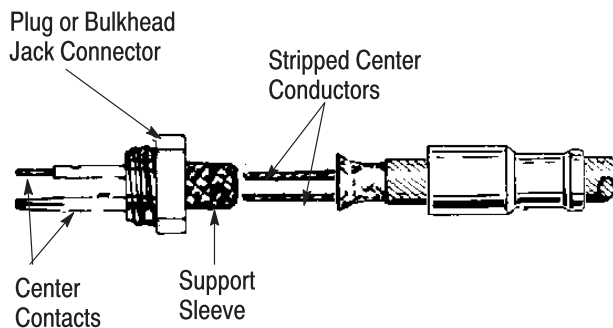

Figure 4
4. Hold the ferrule in place and insert the stripped conductors into the center contacts on the crimp end. See Figure 4.